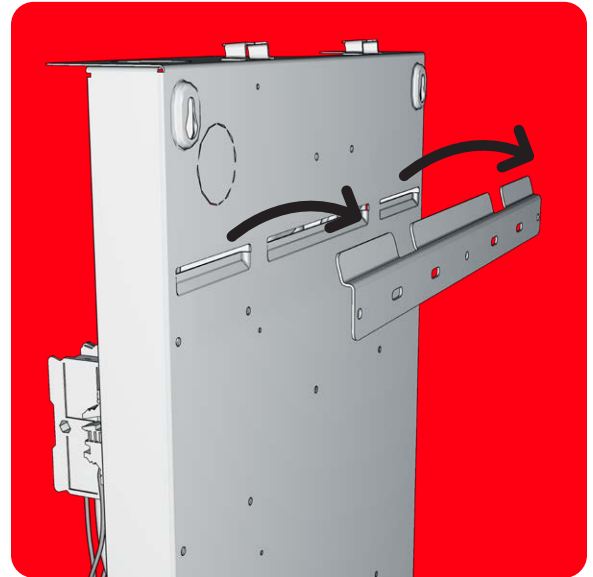

Figure 4 - **GEN3** Unit (left) with Wall Mount Bracket (right)
Lift the **GEN3** unit and center it over the Bracket that was affixed in Step 1. Align the three (3) back slots of the **GEN3** sheet metal enclosure with the three (3) flanges of the Bracket, and lower the unit until the flanges are solidly resting in the slots. (See Figure 4).